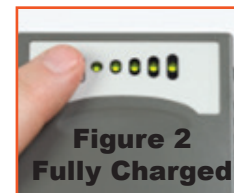

Figure 2
- Slide a new, fully-charged battery (Figure 2) into the empty battery clip by aligning the **RED** arrows. The battery will click into the clip. Gently tug at battery to ensure connection. If battery is properly secured, the beeping and yellow flashing will stop.